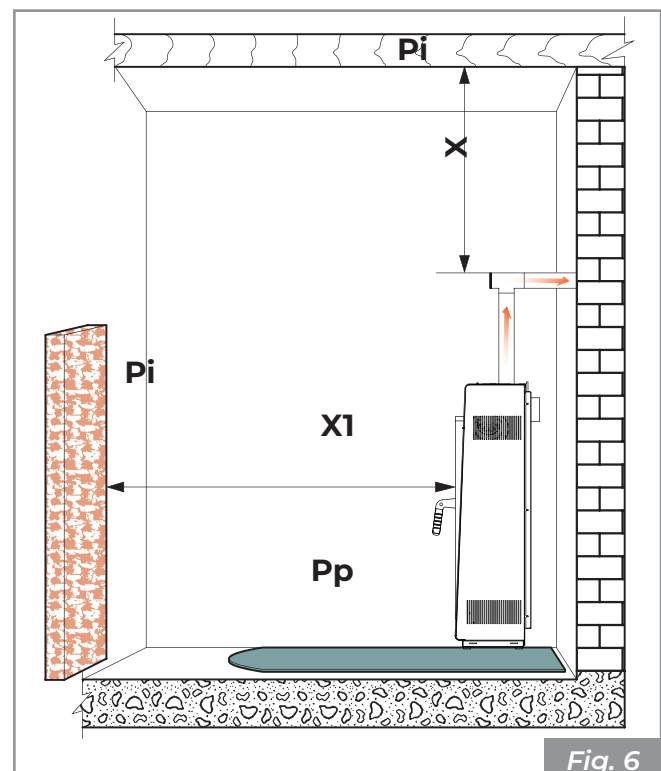

Fig. 6
Remember to respect the minimum distance from flammable materials (X), shown on the identification plate of the pipes used to create the chimney (Fig. 6).